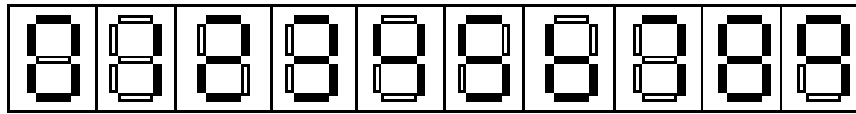

Figure 4-7 0-9's 7 segment
1. Assume numbers from 0-15 displayed by 7 segment display as figure 4-7.